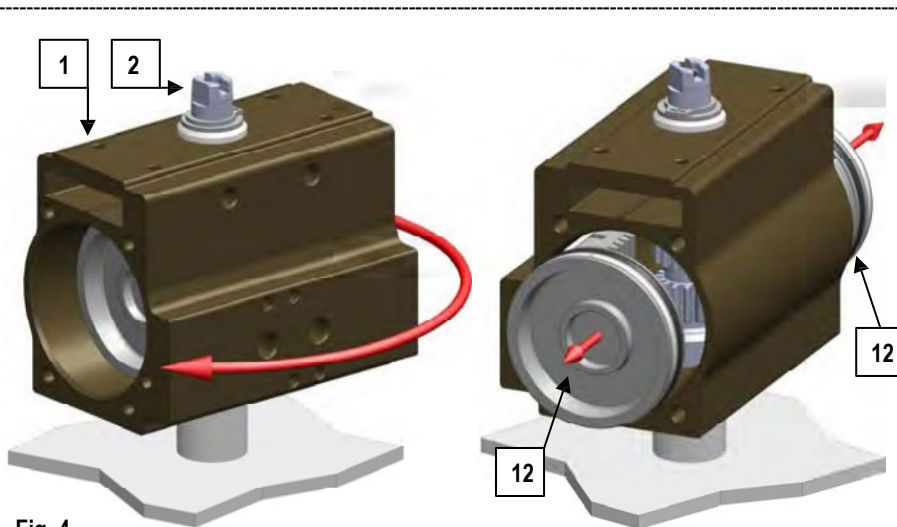

Fig. 4
8. Rotate the cylinder (1) in **CLOCKWISE** direction (top view) holding the pinion (2) so as to release the rack of the pistons (12) from the pinion (2), and to push the pistons towards to the cylinder ends. Now both pistons (12) can be removed (see Fig. 4).